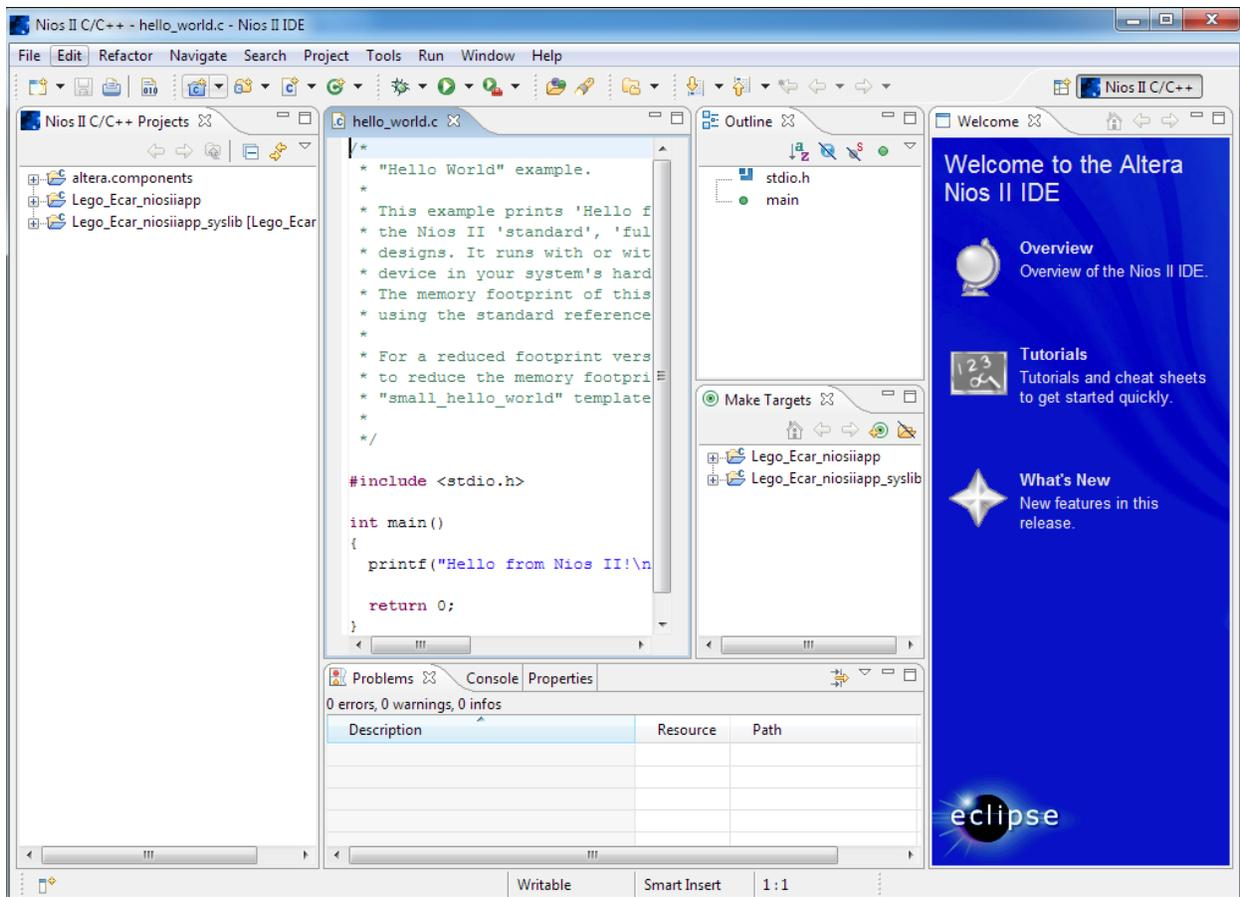

Figure 2-4 Nios II IDE C++ Project Perspective for hello_world_0
5. Click **Finish**. The Nios II IDE creates the **Lego_Ecar_niosiiapp** project and returns to the Nios II C/C++ project perspective. See Figure 2-4.